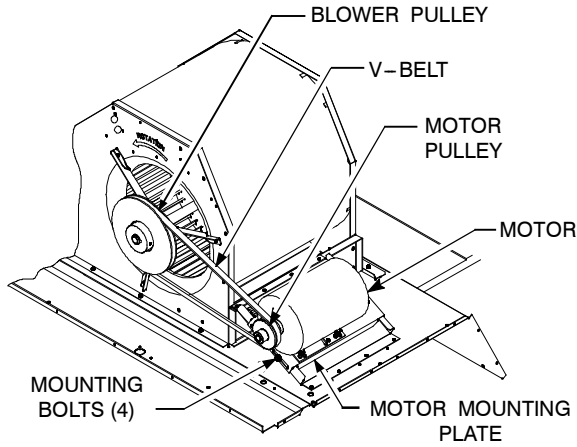

Fig. 6 - Typical Belt Drive Motor Mounting
blower housing. A fixed-pitch driven pulley is attached to the fan shaft and an adjustable-pitch driver pulley is on the motor. The pulleys are connected using a V-belt. (See Fig. 6.).
Use the following steps to replace the V-belt. See Fig. 6.
2. Loosen belt by loosening fan motor mounting nuts. (See Fig. 6.)